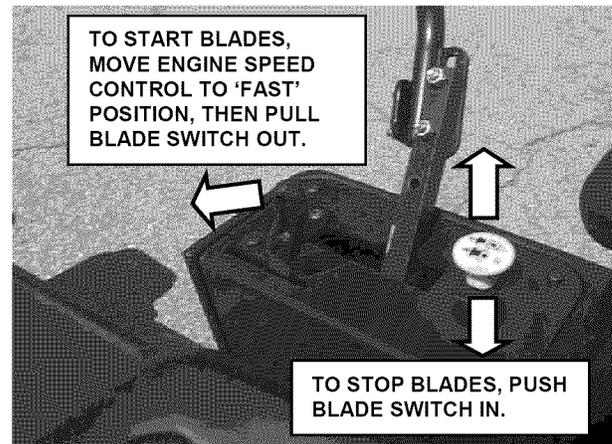

FIGURE 2.10
2. Pull Blade Switch out to its on ('I') position to engage mower blade. See Figure 2.10.
Push Blade Switch in to its off ('0') position to disengage mower blade(s). See Figure 2.10.